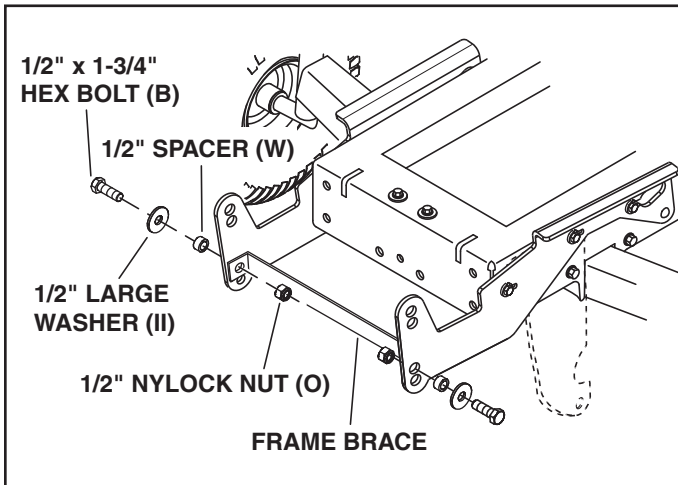

FIGURE 21
STEP 22: INSTALL FRAME BRACE (SEE FIGURE 21)
- Install the frame brace between the side plates using two 1/2" x 1-3/4" bolts (B), large 1/2" large washers (II), 1/2" spacers (W) and 1/2" nylock nuts (O). Fasten the brace to the second from bottom holes in the side plates. **Tighten**.
- **Tighten** 3/8" bolts (E) in side plates only until they are snug and the lock washers are flattened.